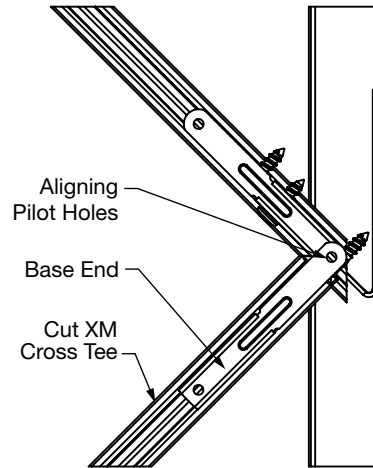

Fig 39
- Place a PAC over the bulb of the cut XM Cross Tee so that the pilot hole on the flat side aligns over the pilot hole on the base side of the previously installed PAC (**Fig 39**).